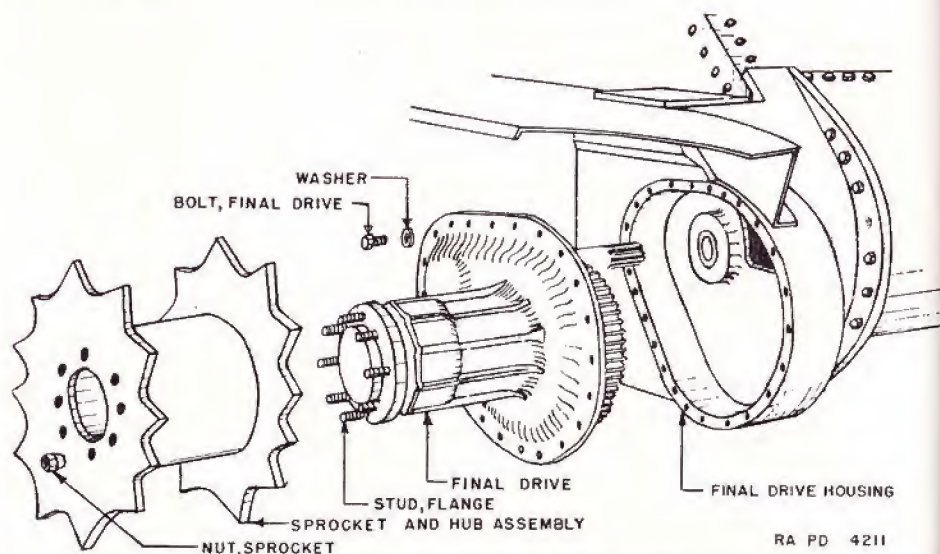
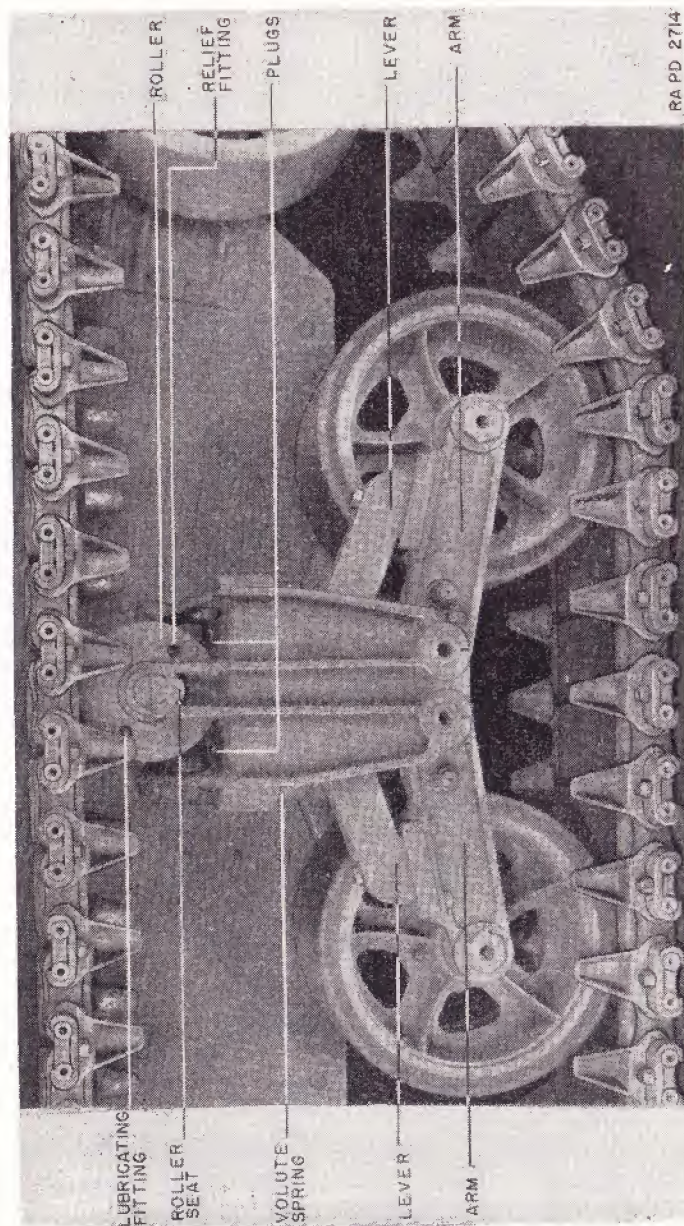

FIGURE 47.—Final drive and brake housing.
FIGURE 48.—Bogie wheels and supporting roller.
93. Removal of final drive unit (see fig. 47).—*a.* Slacken and disconnect the track under the drive sprockets.
94. Description and operation (fig. 48).—Six two-wheeled rubber-tired bogies or suspensions, bolted to the hull, support the vehicle on springs. The tracks are driven by sprockets on the front of the tank. Two adjustable idlers at the rear end of the hull are provided to maintain constant tension on the tracks. The weight of the upper portion of the track is carried by steel track-supporting rollers on the top of the suspension bracket.
95. Drive sprockets (fig. 47).—*a. Description.*—Hub assemblies are formed by bolting two sprockets to a hub, which in turn is bolted to the flange end of the final drive shaft. These sprockets and hub assemblies are interchangeable as units, and should be transposed between the right and left final drive shafts when the teeth have been appreciably worn.
b. To replace the hub assembly (see fig. 47).—(1) Slacken and disconnect the track below the sprocket.
- (2) Remove the eight hub retaining nuts.
- (3) Remove the hub assembly.
- (4) To replace the hub assembly, reverse procedure. Connect the track and adjust tension.
96. Bogies (fig. 48).—*a. Description and operation.*—The bogies are the supporting and conveying units and are sometimes called trucks or suspensions. The movement is transferred from the wheels to the arms and levers and is absorbed by springs. On top of each bogie assembly is a single steel roller to support and carry the upper portion of the track. The roller assemblies are bolted in seats on top of the bogie brackets.